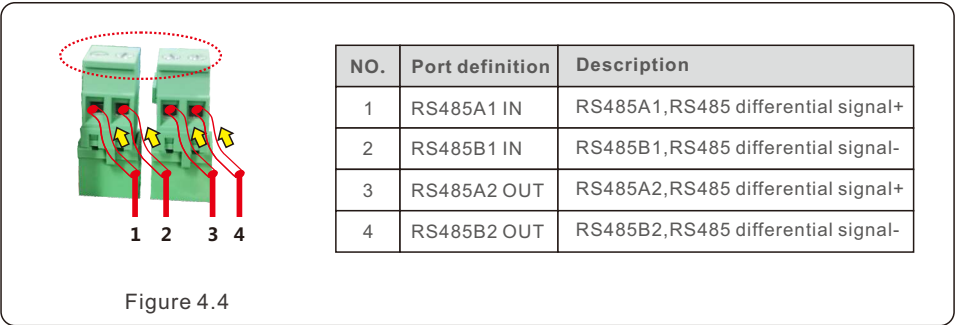

Figure 4.4
- d. Remove the terminal block on user interface board(See Figure 4.4).
- e. Insert the cable into the terminal board and tighten the screws in dotted area(See Figure 4.4).